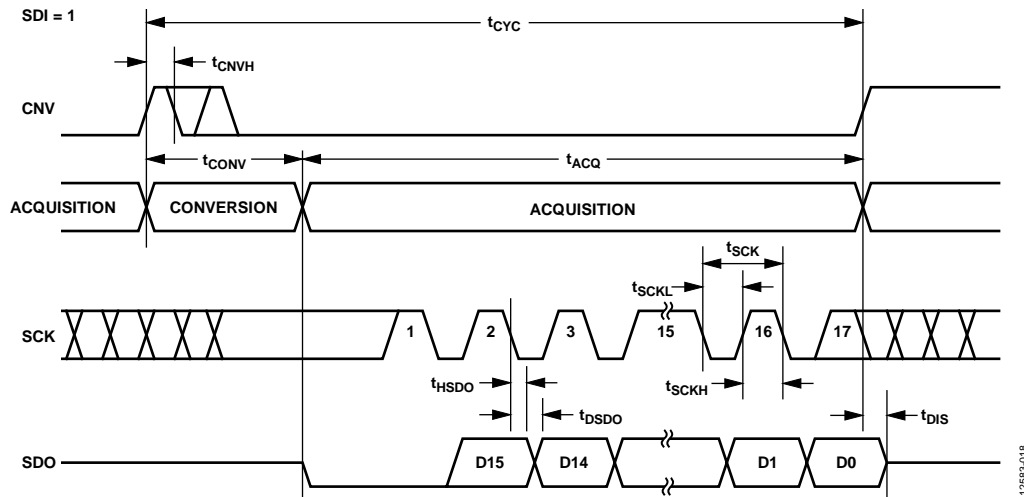
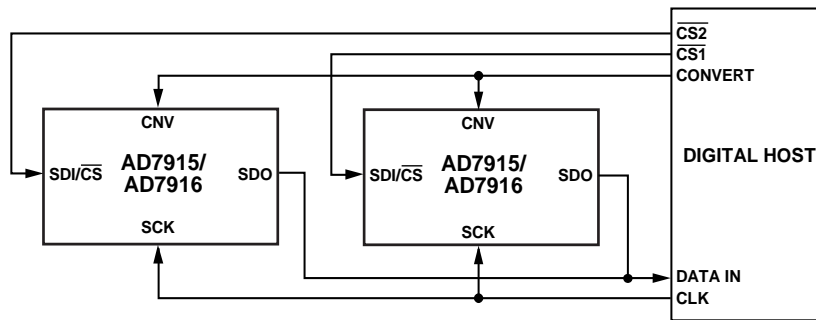
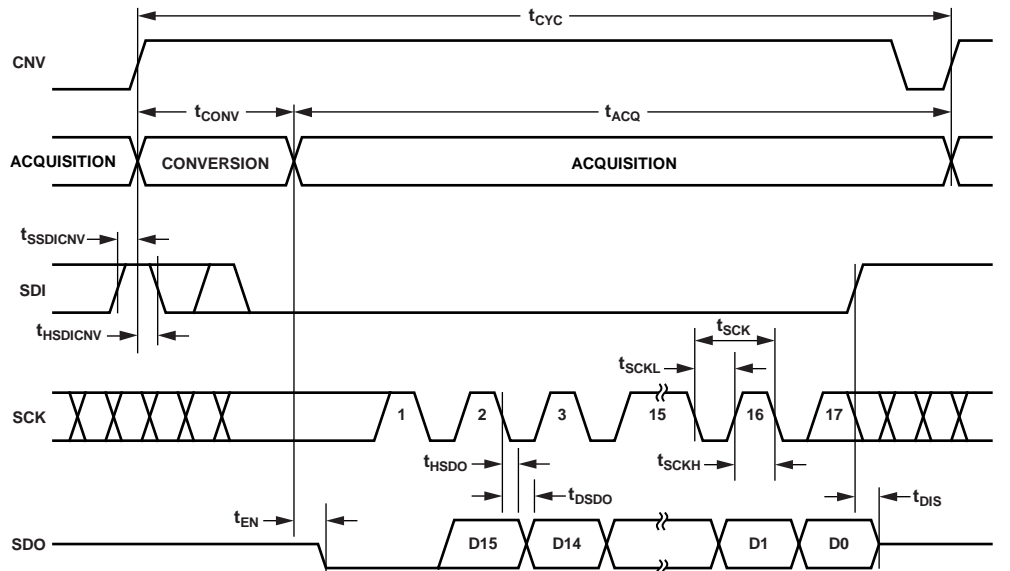
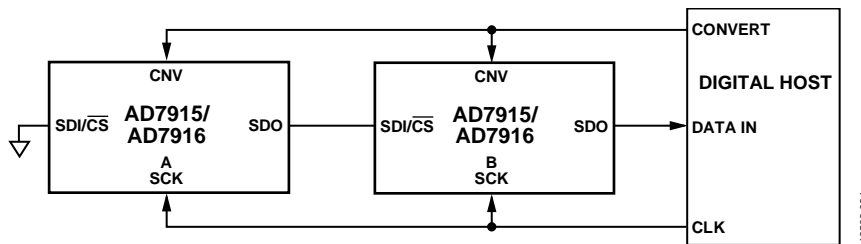

Figure 37. 3-Wire \overline{CS} Mode with Busy Indicator Serial Interface Timing (SDI High)
Figure 38. $\overline{\text{CS}}$ Mode Without Busy Indicator, 4-Wire Connection Diagram
Figure 41. 4-Wire \overline{CS} Mode with Busy Indicator Serial Interface Timing
Figure 42. Chain Mode Without Busy Indicator Connection Diagram
- in $\overline{\text{CS}}$ mode if CNV or SDI is low when the ADC conversion ends (see Figure 38 and Figure 42).
The connection diagram is shown in Figure 37, and the corresponding timing is given in Figure 38.
The connection diagram is shown in Figure 41, and the corresponding timing is given in Figure 42.